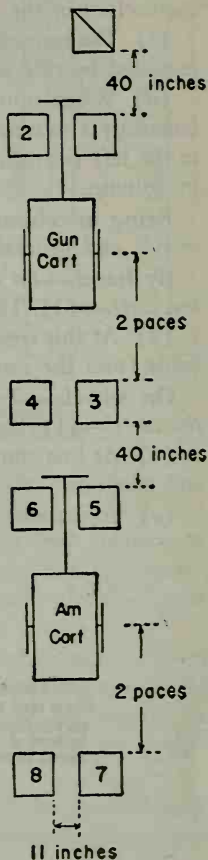

FIG. 41-2—The squad in column as part of a larger unit.
**Individual cart movements.**—(a) *Being in line to form column of carts to a flank.*—(1) The command is: 1. *Carts right (left)*, 2. *MARCH*.
(2) At the command *MARCH*, each cart executes *Cart right*. Dragmen wheel the carts to the right, pivoting the cart on the right wheel, and halt. Other men, moving by the most convenient and direct route, place themselves in the positions indicated in Fig. 41-2 and halt.